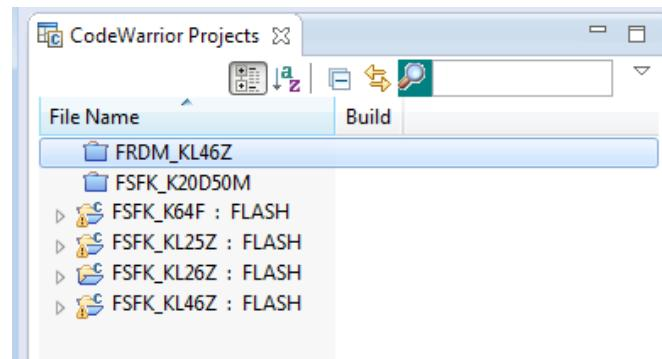

Figure 12. CodeWarrior Projects tab
a. To change the UART assignment in Processor Expert, in the **CodeWarrior Projects** tab, select the appropriate project name for the board you are using. See Figure 12.